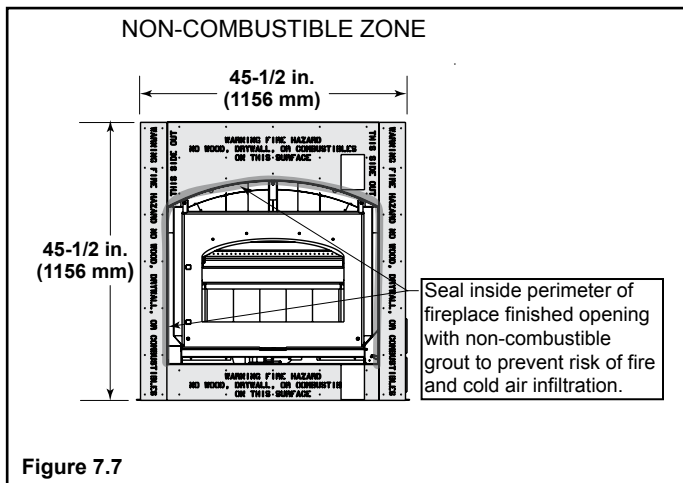

Figure 7.7
- A bead of non-combustible sealant (or Super Calstick) must be used to close off any gaps at the top and sides between the fireplace and non-combustible facing (Figure 7.7) to prevent cold air leaks and the risk of fire. Large gaps can be bridged with fiberglass rope gasket.